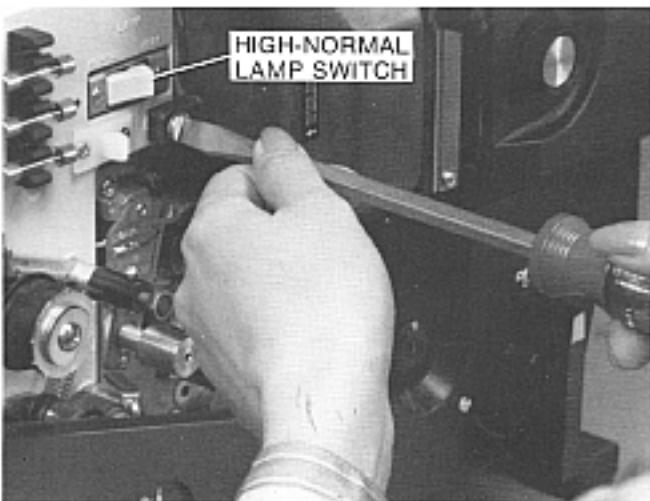

Figure 27
With this switch in the HIGH position, the projection lamp delivers maximum brightness. When this switch is in the NORMAL position, projection lamp brightness is reduced by approximately 20 percent, but lamp life is extended by approximately 240 percent, from 50 to 120 hours. (See SPECIFICATIONS on the inside back cover.) The high-normal lamp switch is under the front cover, above the exciter lamp. See Figure 27 on page 8.
4. Using a flat-blade screwdriver, loosen the lamp cover retaining screw (under the high-normal lamp switch) until the cover can be removed easily. See Figure 27.
NOTE: There are spare fuses under the front cover, as shown in Figure 27. You may want to read HAVING PROBLEMS? on page 12, for indications of a possible blown fuse.